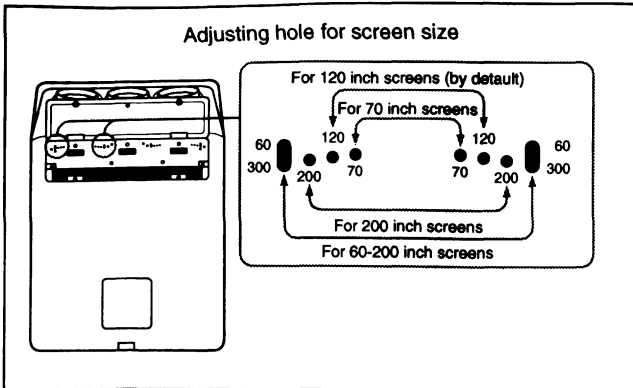

Fig. 5
1. Open the top cover, and check that there are adjusting screws in the adjusting hole for the 120-inch screen. (See Fig. 5.)